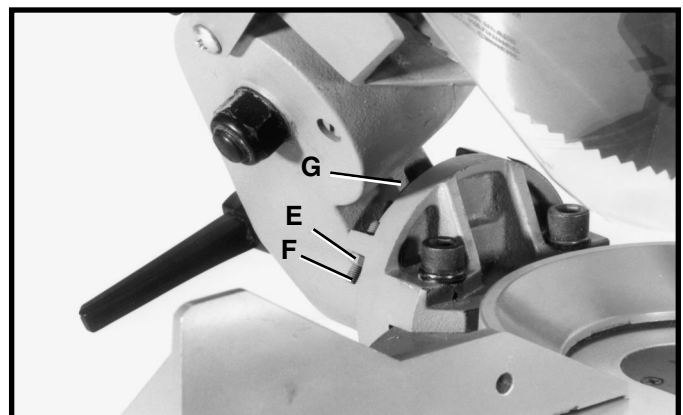

Fig. 24
7. If an adjustment is necessary, loosen locknut (E) Fig. 24, and turn screw (F) until other end of screw (F) contacts casting (G) when blade is 45 degrees to the table. Then tighten locknut (E).